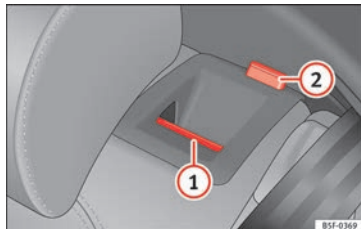

Fig. 155 On the rear seat backrest: release catch ①; red mark ②.
- Push the unlock button »» Fig. 155 ① forwards and at the same time lift the backrest.
- The rear seat backrest is not engaged when the red marking of the button ② is visible.
The rear seat backrest is not engaged when the red marking of the button » Fig. 155 ② is visible.